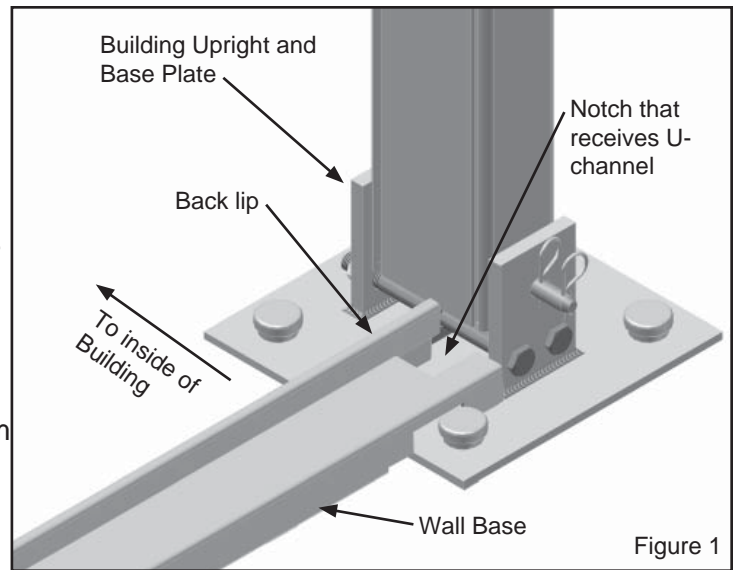

Figure 1
1. Install the wall base equally spaced between the uprights. Position the wall base so that the back lip is toward the interior of the tent. See Figure 1.